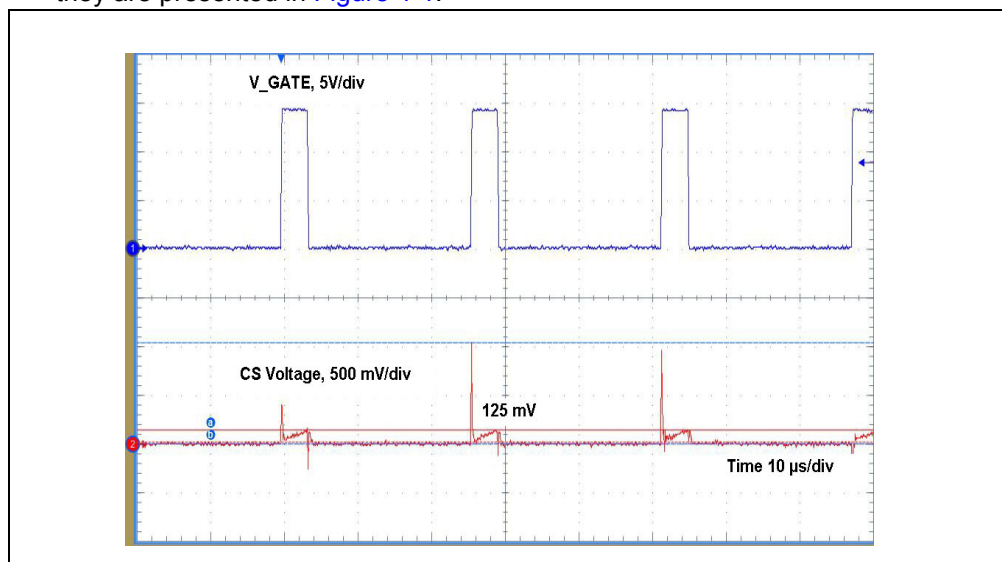

FIGURE 4-1: MCP1012 V_GATE and C/S Voltage.
7. Check on the oscilloscope screen the V_GATE voltage and the C/S signal, as they are presented in Figure 4-1.